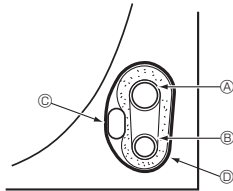

Fig. 4-5
4.4.1. Storing in the piping space of the unit (Fig. 4-5)